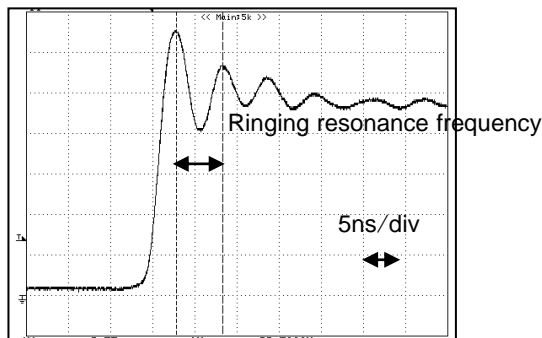

Figure 77. PWM Output waveform (Measure of ringing resonance frequency)
- ① Measure the ringing resonance frequency  $f_1$  of the PWM output wave shape (When it stands up.) by using FET probe in the OUT terminal. (Figure 77) The FET probe is to monitor very near pin and shorten ground lead at the time of that.
- ② Measure resonance frequency  $f_2$  of the ringing as a snubber circuit fixed number  $R=0\Omega$ . (Only with connecting the capacitor  $C$  to GND) At this time, the value of the capacitor  $C$  is adjusted until it becomes half of the frequency ( $2f_2=f_1$ ) of the resonance frequency  $f_1$  of ①. The value of  $C$  which it could get here is three times of the parasitic capacity  $C_p$  that a ringing is formed. ( $C=3C_p$ )
- ③ Parasitic inductance  $L_p$  is looked for at the next formula.